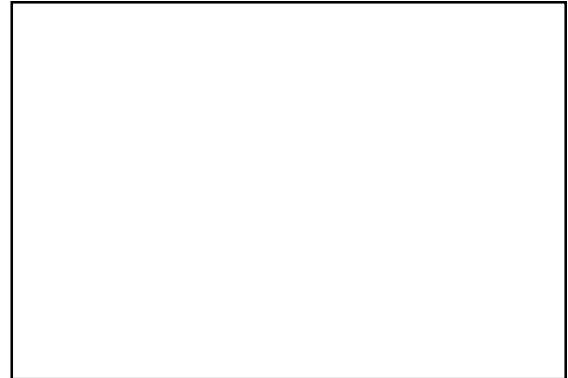

Figure 3 Mounting the NiCad Battery.
9. The NiCad battery mounts between the gas tank and the plastic body. Mount the battery to the mounting plate and slide the assembly between the plastic and the tank. Bolt both pieces to the tank with the original hardware (Figure 3).